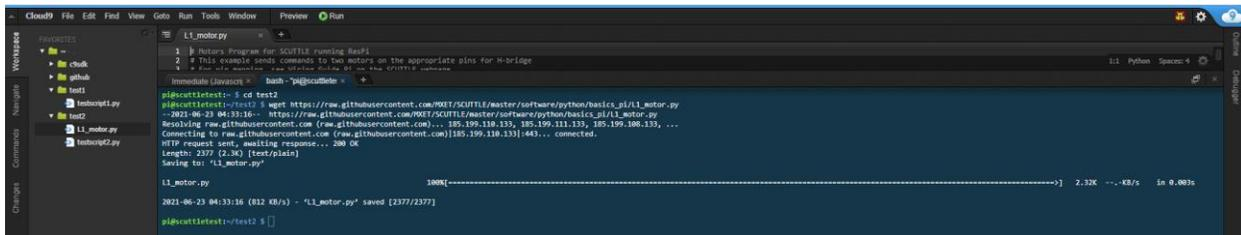

Figure 12
5. Then in the terminal use the *'wget'* command followed by pasting the Raw URL you copied like Figure 12: